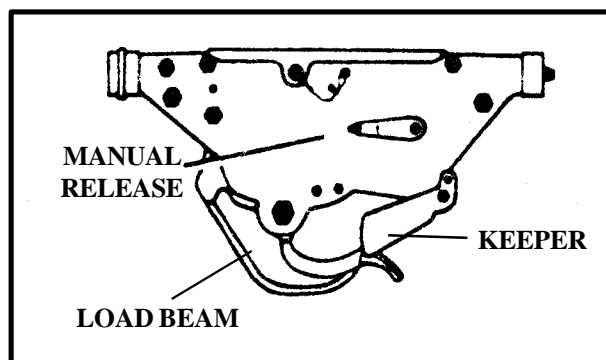

Figure 2-22. H-60 Cargo Hook System
(1) The Army UH-60A cargo hook has a maximum load capacity of 8,000 pounds. The Army UH-60L and USAF MH-60G cargo hook has a maximum load capacity of 9,000 pounds. The cargo hook load capacity of the Navy version, SH-60B, is 4,000 pounds. The cargo hook capacity of the Navy HH-60H and Coast Guard HH-60J is 6,000 pounds. The cargo hook (Figure 2-22) is mounted in an opening in the floor of the aircraft just aft of the main rotor. The aircrew can open the hook electrically or manually. A manual release knob or lever is located on the right side of the cargo hook. In an emergency, the ground crewman or aircrew member can rotate the knob or lever counterclockwise and open the cargo hook.